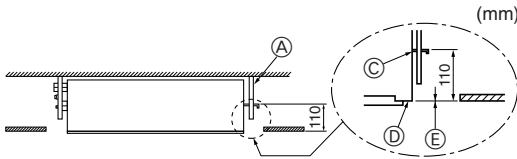
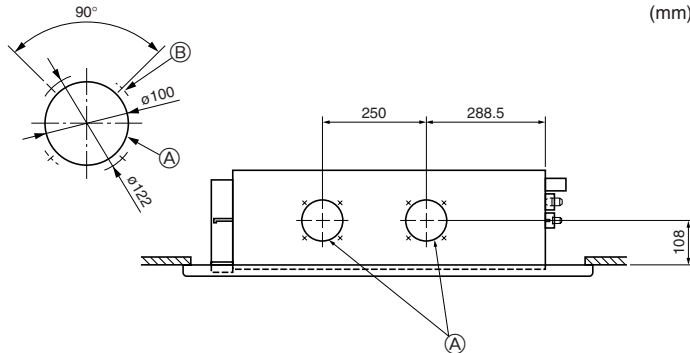

Fig. 2-9
Fig. 2-10
5. Tighten all the nuts. (Fig. 2-9)
① Suspension bolt (3/8" or M10)
② Clear plastic tubing
③ Underside of bracket
④ Secure front panel here
⑤ Make these surfaces are flush with each other (0 - 3 mm)
2.5. Fresh air intake hole (Fig. 2-10)